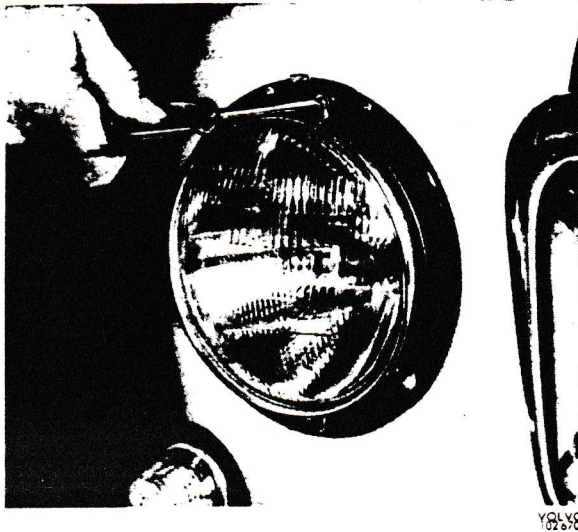

Fig. 77. Removing the retaining ring
2. Slacken the screws for the headlamps insert retaining ring a few turns, see Fig. 77. Turn the retainer until the lips are free of the screws and lift out the retainer and insert with bulb holder.